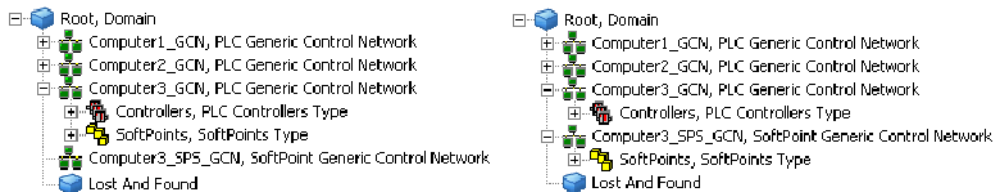

Figure 2. Draged Object
2. Use the Object Browser to drag the `SoftPoints`, `SoftPoints Type` object from a SoftPoint Generic control network to the corresponding PLC Generic control network. Place the object at the same level as the `Controllers`, `PLC Controller Type` object as shown in Figure 2.